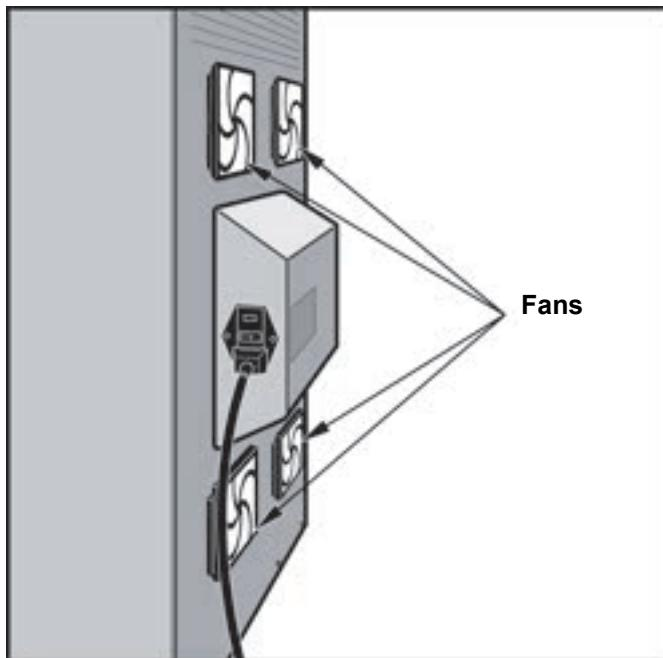

Figure 9-18. GeneXpert GX-XVI R1 Instrument Positioned for Access to Fans
Clean the fan filters weekly or more frequently, if necessary. There are four fan filters on the GeneXpert GX-XVI R1. Location of the fan filters is on the back of the GX-XVI R1. See Figure 9-18. The materials needed for the procedure are as follows:
3. If there is not sufficient rear access to the instrument, slide the instrument around so you can easily access the filter covers. See Figure 9-18.